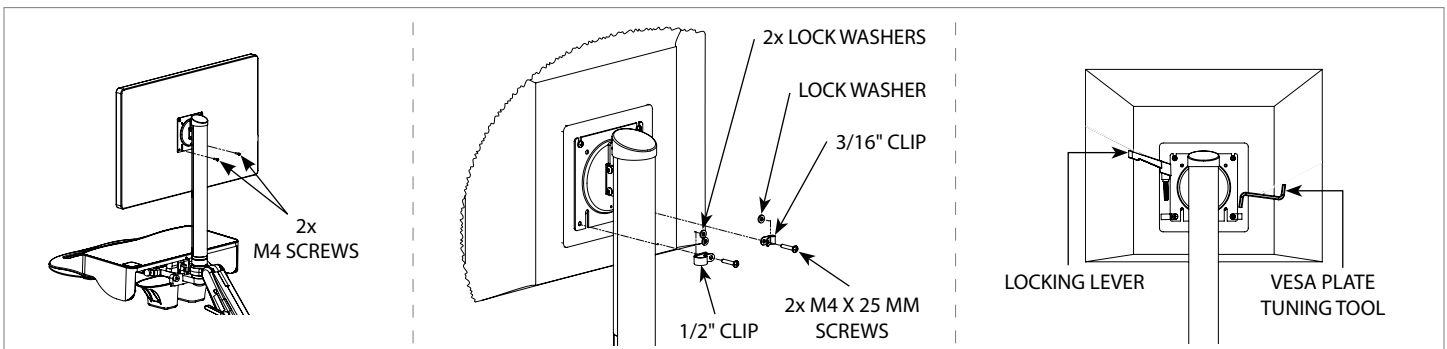

Figure 5
7. Remove the pre-installed bottom **M4 SCREWS** from the VESA Head (Figure 5).
8. Reinstall the 3/16" and 1/2" **PLASTIC CLIPS** (included in the Falcon Workstation hardware kit) onto the VESA Head using the **M4 25 MM SCREWS** and **LOCK WASHERS** (included in the Falcon Workstation hardware kit) using a #2 Phillips screwdriver (Figure 5).
i **NOTE:** ENSURE THE **LOCK WASHERS** ARE PLACED BETWEEN THE **PLASTIC CLIPS** MOUNTING TABS. USE **2X LOCK WASHERS** FOR THE 1/2" **PLASTIC CLIP** AND **1X LOCK WASHER** FOR THE 3/16" **PLASTIC CLIP** (FIGURE 5).
9. Slide the **LOCKING LEVER** into 1/2" **PLASTIC CLIP** and **VESA PLATE TUNING TOOL** into 3/16" **PLASTIC CLIP** to secure (Figure 5).